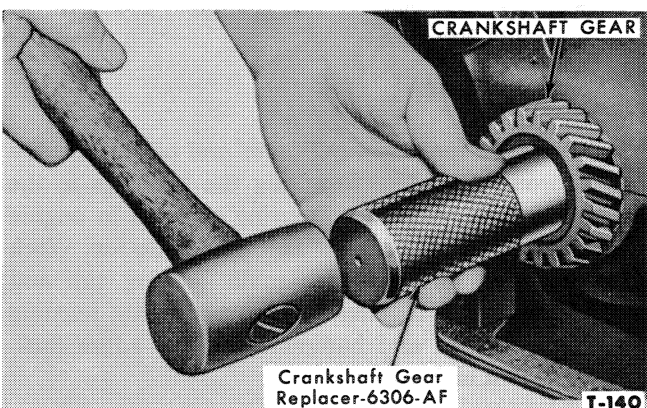

Figure 64—Installing Crankshaft Gear
2. Replace the gear with Installer 6306-AF as shown in Figure 64.